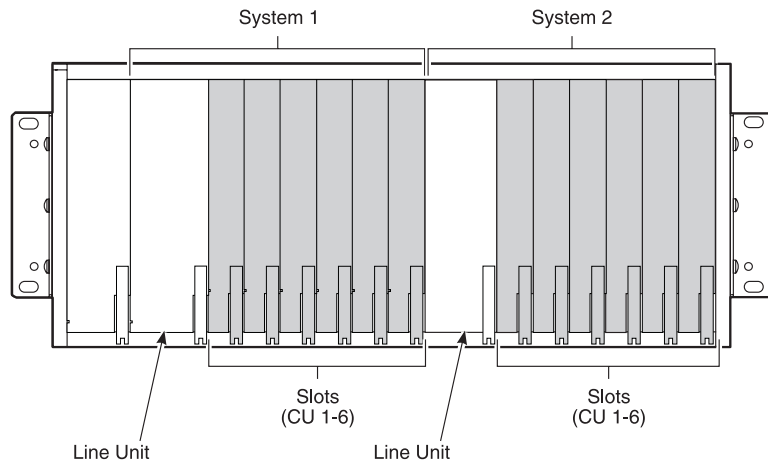
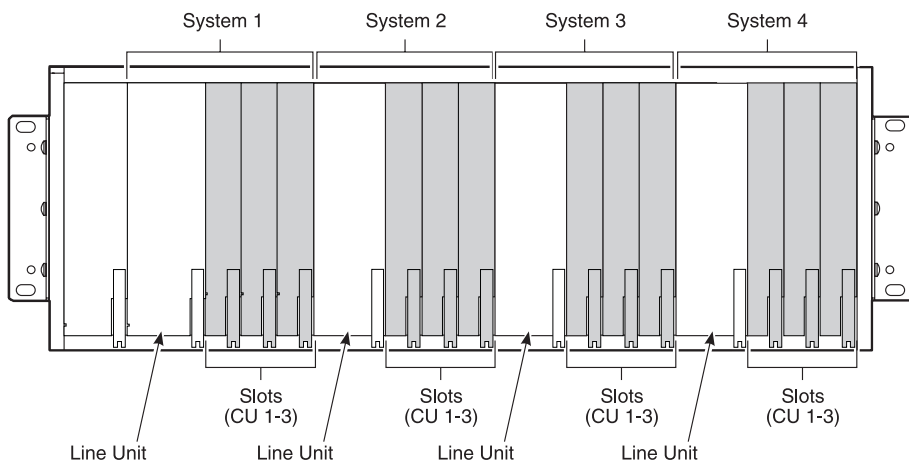

Figure 1. 19" Central Office Shelf
Figure 2. 23" Central Office Shelf
- 1 Slide the FSU-796 into the channel unit slot to be tested until the retaining latch on the front panel locks into position. (Refer to Figure 1 for a 19" COT shelf and refer to Figure 2 for a 23" COT shelf).